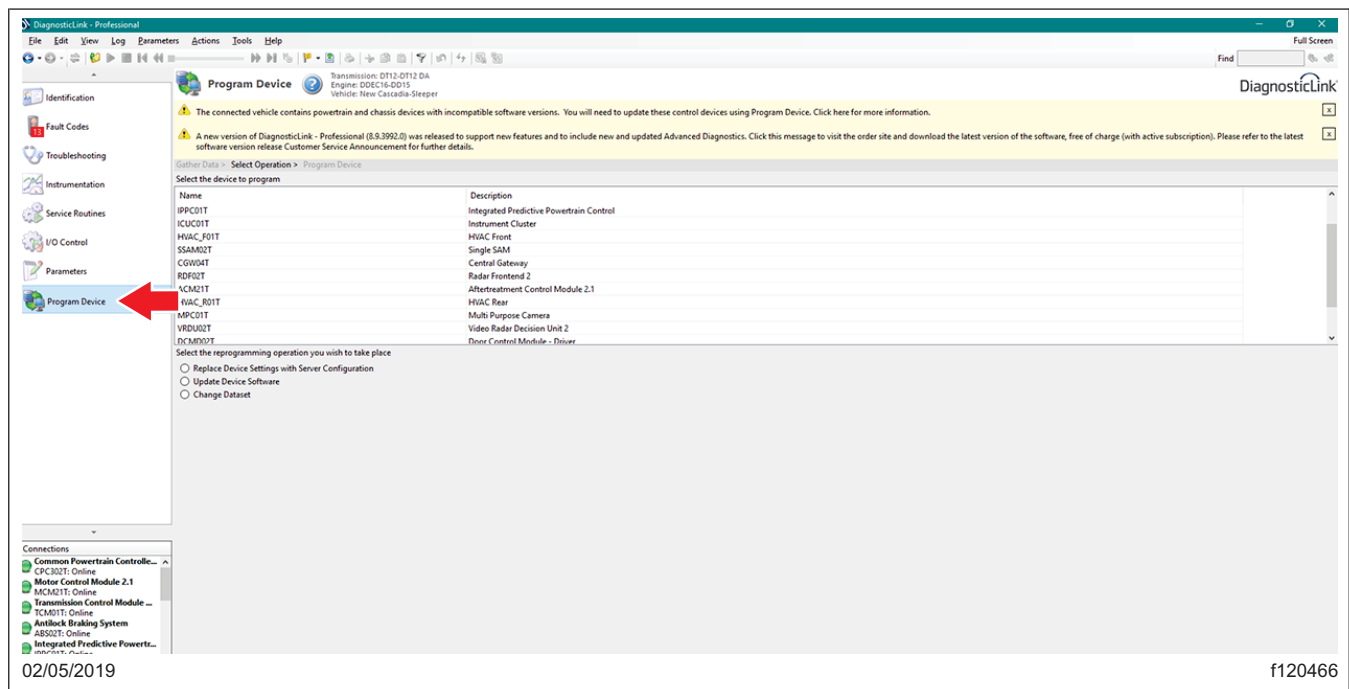

Fig. 1, DiagnosticLink Program Device Panel
3. Add the VIN, click on "Connect to Server," then press "Next." See Fig. 1.